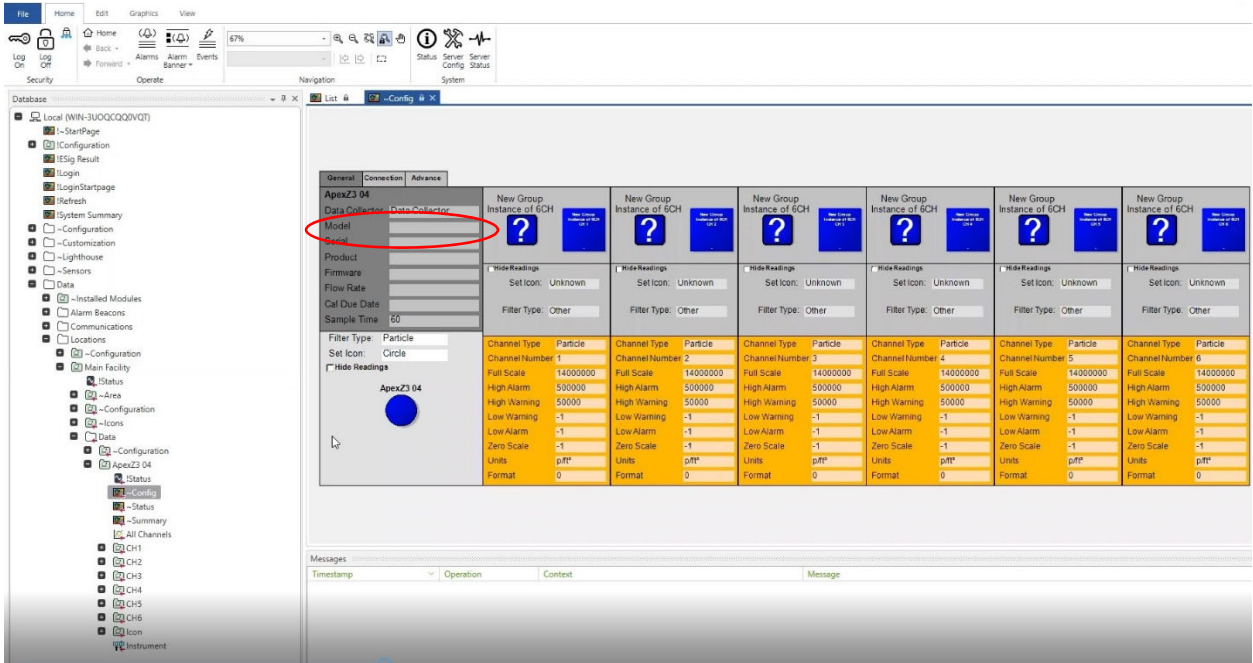

Figure 2.4
2.4 Expand the new unit and select the Config item. This will show the Config screen as seen in Figure 2.4. Ensure that the first dropdown has “Data Collector” listed.